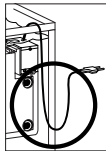

Fig.1
E) To avoid the possibility of the appliance plug or receptacle getting wet, position the appliance to one side of a wall-mounted receptacle and prevent water from dripping onto the receptacle or plug. A "drip loop" (Fig. 1) should be arranged for the cord connecting the appliance to the receptacle. The "drip loop" is that part of the cord below the level of the receptacle or the connector, if an extension cord is used, to prevent water travelling along the cord and coming in contact with the receptacle.